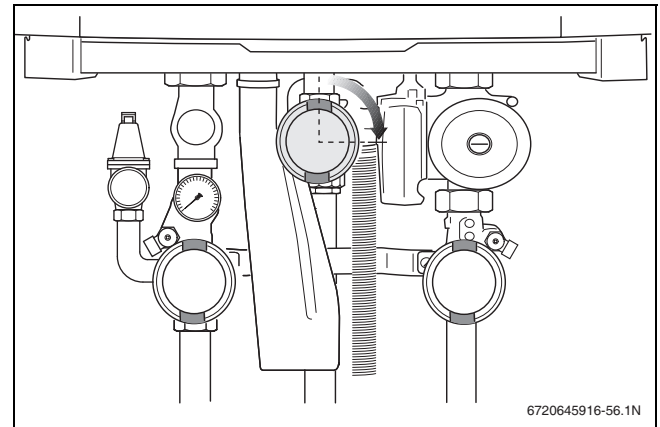

Fig. 59 Closing the gas valve
- Close the gas valve (→ fig. 59).
- ▶ Close the gas shutoff valve when no more air is present (→ fig. 59).